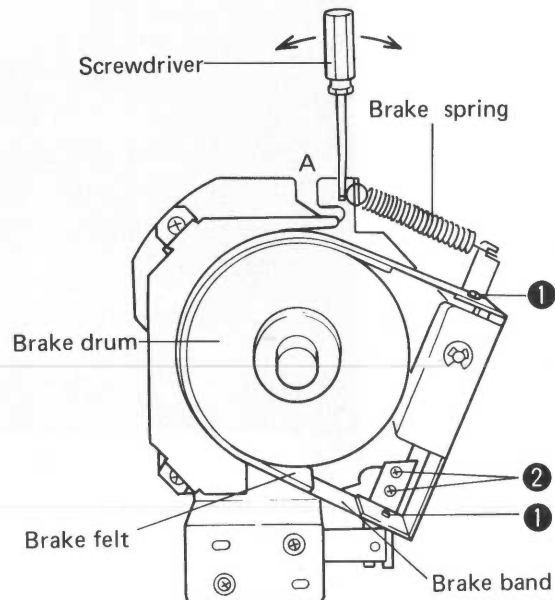

Fig. 6-2 Brake adjustment
1. First check that the brake band is mounted centrally in respect to the brake drum, and that the band is also parallel (i.e. no tape slackness or twisting). If the band is not in the center, adjust the brake drum; if it is not parallel, adjust the brake band after loosening screw ①.
of the brake solenoid inwards), and that there is no slackness in the brake band. If the brake felt does make contact, or there is slackness in the band, loosen screw ② shown in Fig. 6-2 and adjust the brake ring.
3. Pull the tension gauge in the B (E) direction, and read off the value when the reel starts to rotate. This value should lie in the 350 – 450g range, and may be adjusted by screwdriver at section A as shown in Fig. 6-2. If this procedure fails to attain the specified range, check the following points.